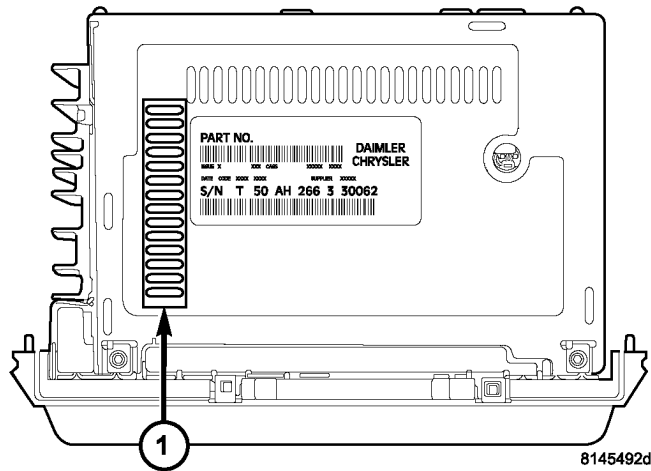

Fig. 1 COVER SLOTS
2. Place 3M Vinyl Plastic Electrical Tape Super 33+ or Equivalent over the row of slots on the left hand side of the radio top cover, be sure to not cover information (barcode, etc.) on the radio's primary label (Fig. 1). Be sure the slots are covered completely and the tape is sealed all around the edges. Also cover and seal with tape, the two slots between the heat sink and the row of covered slots.